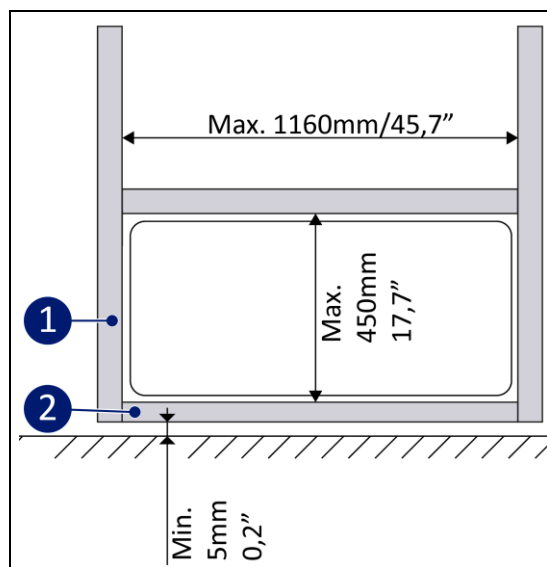

Figure 4-2: Placement of the wall frames.
1. Secure the bottom wall plates bottom plate (Figure 4-2, pos. 2):
2. Secure the wall plates (Figure 4-2, pos. 1) against the HPL bottom plate.